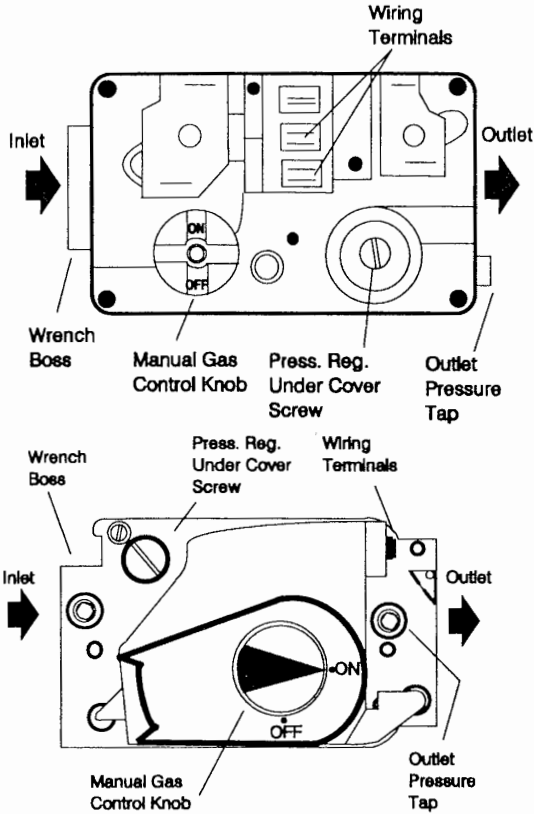

FIGURE 14 - GAS VALVES
- Refer to Figure 14 for location of pressure regulator adjustment cap and screw on main gas valve.
The fan-off setting must be long enough to adequately cool the furnace, but not so long that cold air is blown into the heated space. The fan-off timing may be adjusted by setting the option switches located (refer to Figure 14) on the Johnson Controls G951ADB control board as follows: